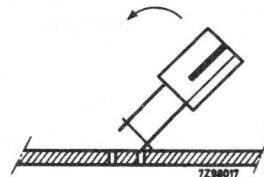

Fig. 7
2. Insert the wire-wrap terminations row by row into the holes of the panel (see Fig. 7). This may be achieved by approaching the panel under slight angle. The terminations should be inserted until the polyester strip touches the panel.